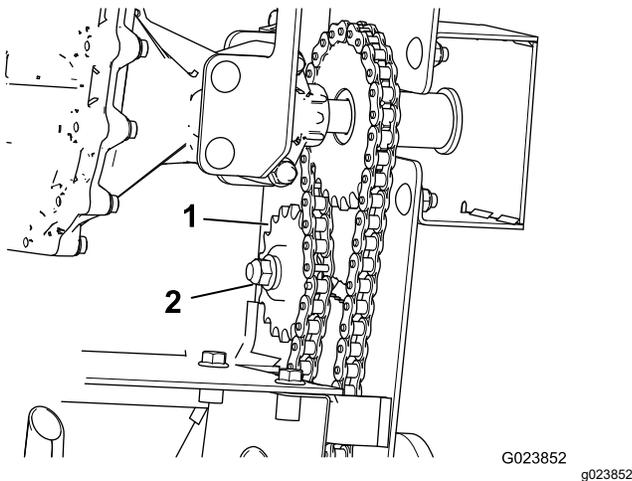

Figure 45
1. Loosen the nut securing the idler sprocket of the chain you are tensioning (Figure 45).